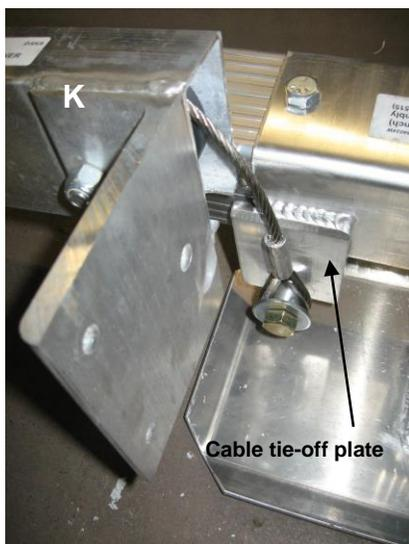
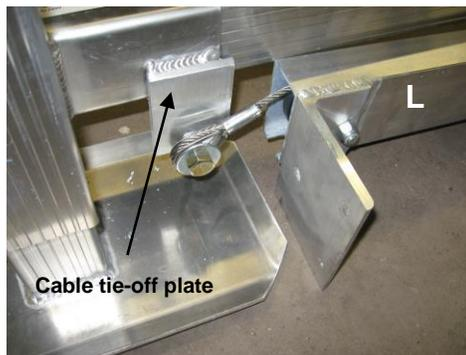

FIG. 21 – Winch side (K)
FIG. 22 Lake Side (L)
- **K** (winch side): label at one end indicates winch corner (FIG. 21)
- **L** (lakeside) (FIG. 22)
1. Place side bunk assemblies into position. **K** should lie between corner posts **A & B** on dockside of lift (See FIG. 21). **L** should lie between corner posts **C & D** on lakeside of lift. (See FIG. 22).
2. Once side bunk assemblies are in position, attach bolt, washer and bushing assembly through looped end of cable (See FIG. 23). Attach to cable tie-off plate found on corner post assembly **A & D** (See FIG. 21 & 22). **Leave stud end of cables loose for now.**